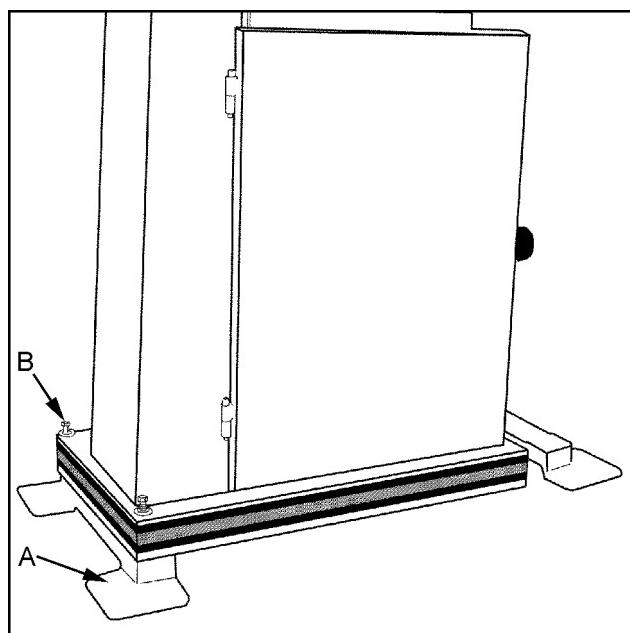

Fig. 1
1. With help from another person tilt the bandsaw just enough to get one set of feet (A, Fig. 1) underneath the base. Line up holes and bolt (B, Fig. 1) through the base into the feet using two hex cap bolts 3/8"-16x4", two 3/8" lock washers, two 3/8" flat washers, and two 3/8" plastic flat washers. Repeat for opposite end.